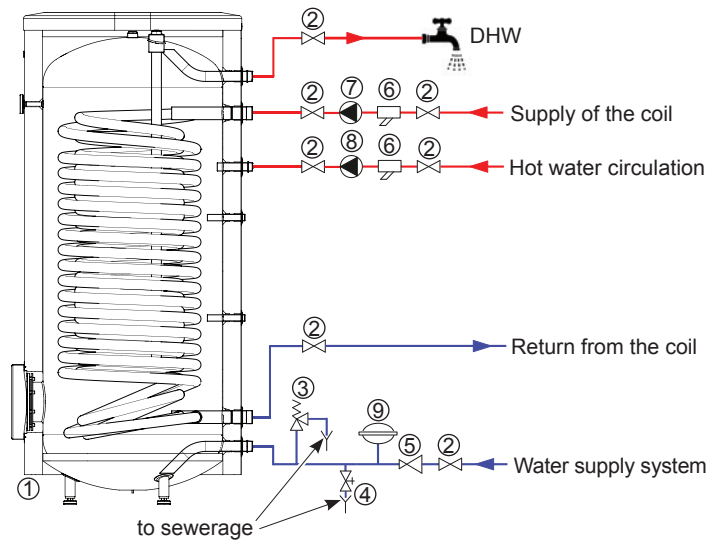

Fig. 7 Installation diagram of the BA-ST 9030/9040 - 1FEDC storage tank with one coil.
Connect the heating and water supply systems in accordance with the installation diagram (see **Fig. 7**.)
In order to minimize the flow of water from the safety valve associated with the thermal expansion of the liquid, it is advisable to install a suitable expansion vessel at the cold water connection (see Fig. 7 item 9.)
3. Cut-off the hot water supply and drain some water from the tank through the drain valve (see Fig. 7 item 4).
4. Remove the housing cover together with thermal insulation (1).
5. Remove the anode protective conductor (2).
6. Remove the worn magnesium anode (3).